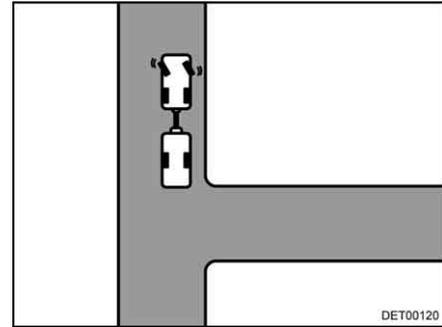

Fig. 18 Steer to the left
- Steer the stationary towing vehicle and trailer to the left (Fig. 18).